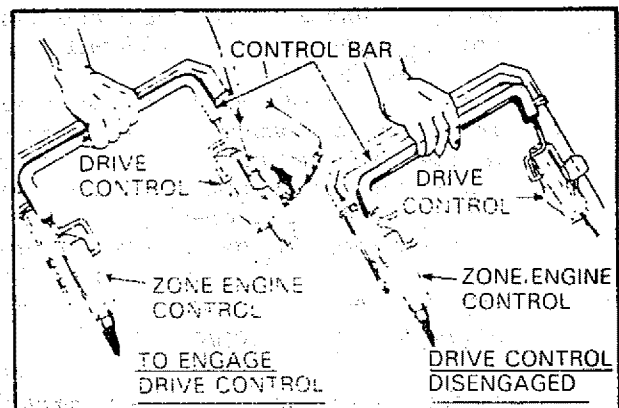

FIG. 15
Your mower is equipped with a zone/engine control attached and requires no adjustments (See Fig. 15).
The power-propelling forward motion is controlled by pulling the control bar down to handle and pushing the drive control lever forward until it clicks, then release the lever (See Fig. 15).
5. Hold, clip or tape down the drive control bar and engage the drive control (See Fig. 15).